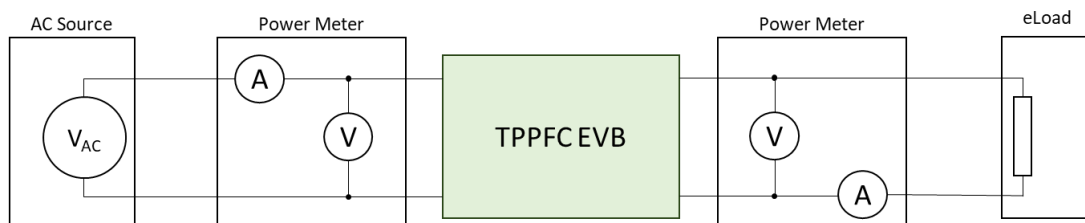

Figure 13 – Test set-up for efficiency measurements
- A 2-channel power analyser was used for efficiency, power factor and THD measurements. Power analyser's channel 1 was attached to the input to measure input power, power factor and THD and channel 2 was connected to the output to measure output power. Figure 13 illustrates how the test-set up was arranged. The power analysers' voltmeter in the input was connected directly to connectors P1 (L) and P3 (N). The power analyser's voltmeter in the output was connected directly to connectors P5 (VPFC+) and P4 (VPFC-).